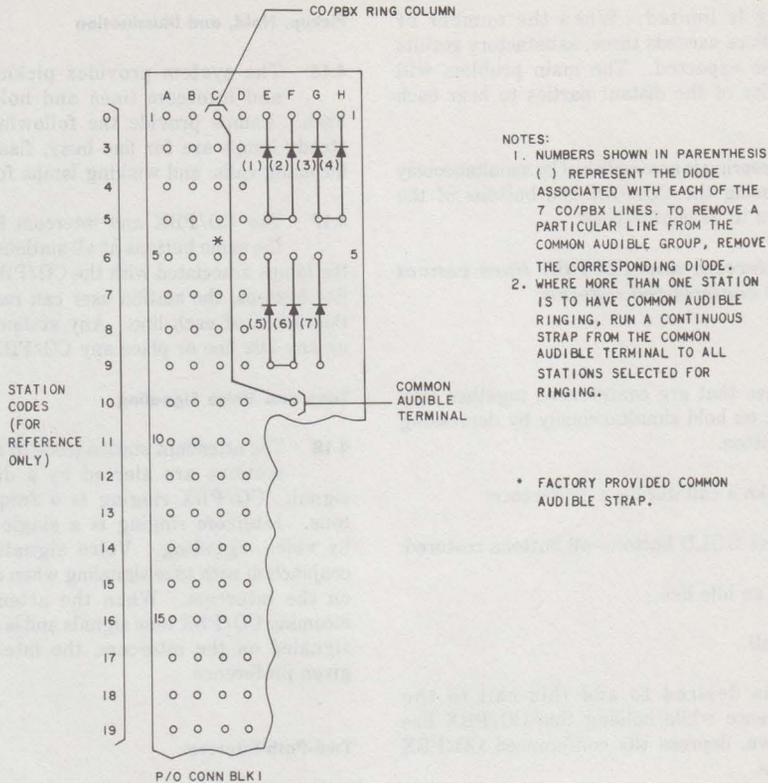

Fig. 26—Connections For Common Audible
4.04 The 7A System is factory-wired for the attendant station (intercom code 0) to receive *tone ringing* whenever there is an incoming call on any of the CO/PBX lines. (The lamp under the associated CO/PBX line button flashes for visual identification of the calling line.) See Fig. 26 for connections.
(3) Use a continuous strap if more than one station code is connected to the common audible ring terminal. Ten stations may be wired for common audible.
4.08 To remove a particular CO/PBX line from the common audible group, remove the corresponding common audible diode on connecting block 1. See Fig. 26.